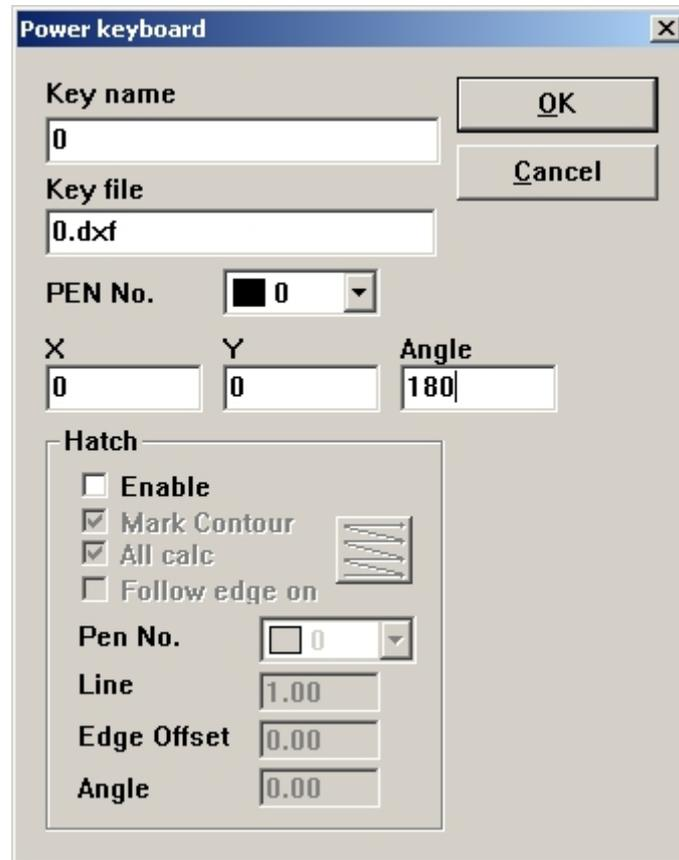

Figure 8-21
- Click "Add" then the dialog box popup shown as Figure8-21: